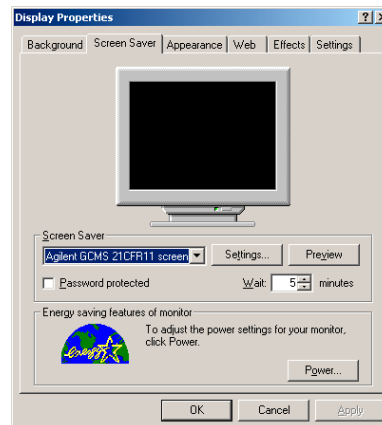

Figure 4. Configuring the inactivity timeout.
- Configurable inactivity timeout (unlocking requires reauthentication with both user-ID and password). See Figure 4.